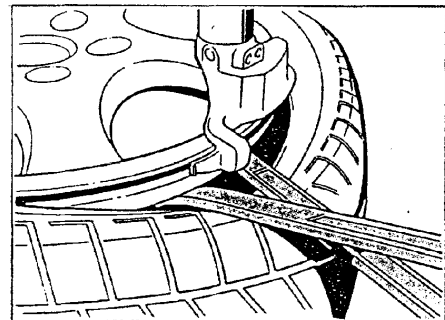
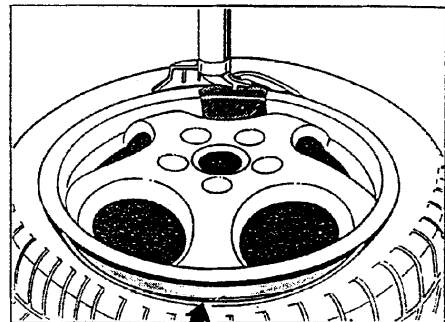
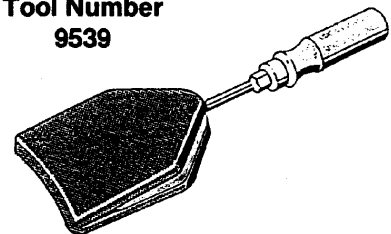

Figure 2
Figure 3
Figure 4
- Lift the first side of the tire over the assembly head (Figure 2), placing a shop rag or a piece of leather between the wheel and tire iron to avoid damage and to facilitate assembly. NOTE: Flatten and round off the face end of the tire iron. Also, make sure the tire is held down in the drop center (Figure 3) opposite the assembly head using special tool 9539 (Figure 4) or suitable equivalent tool.